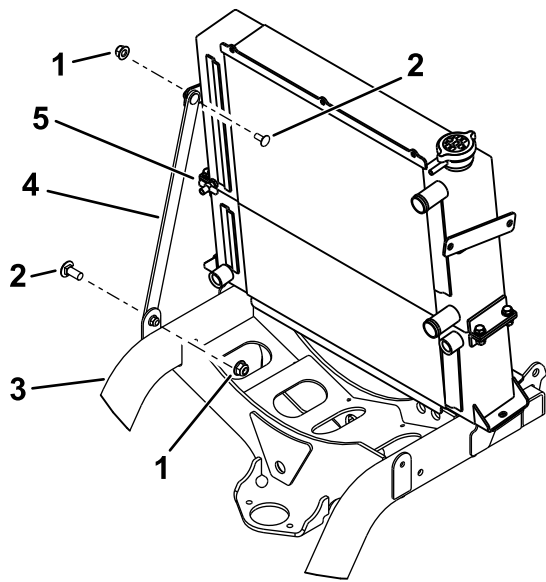

Figure 21
9. Remove the existing bracket from the machine frame and radiator (Figure 21). Save the hardware.
10. Drain half of the engine coolant from the radiator by using the valve on the right side of the radiator as shown in Figure 21.